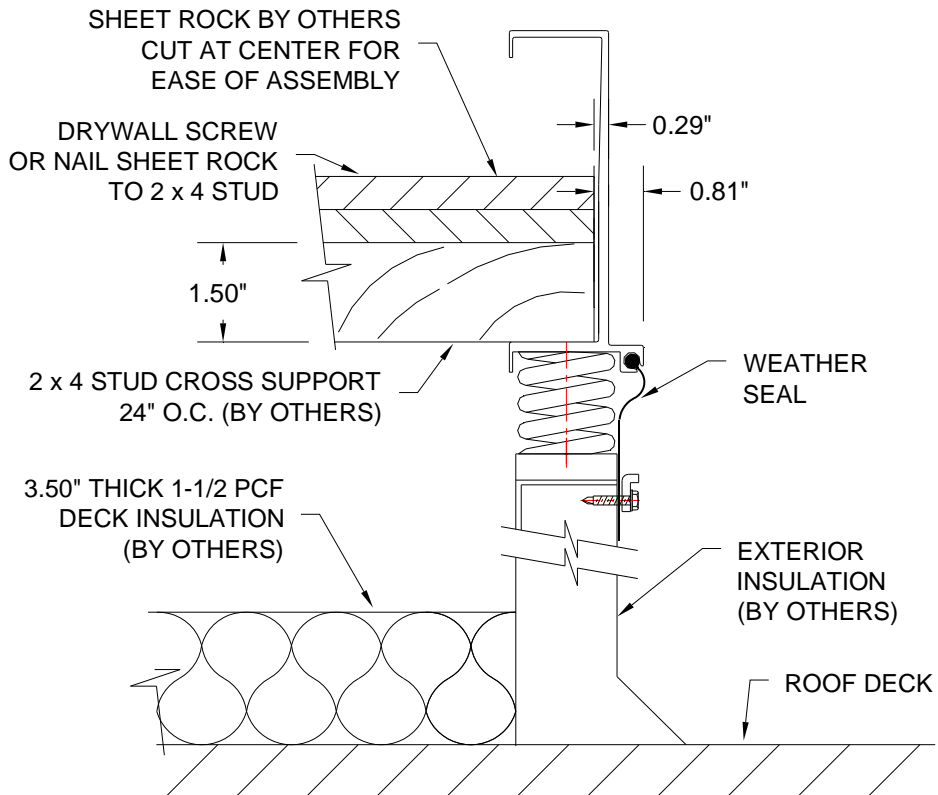

Figure 7.1
- A. Install any optional noise control package at this time. 2 x 4 studs, sheet rock and deck insulation by others (see figure 7.1).